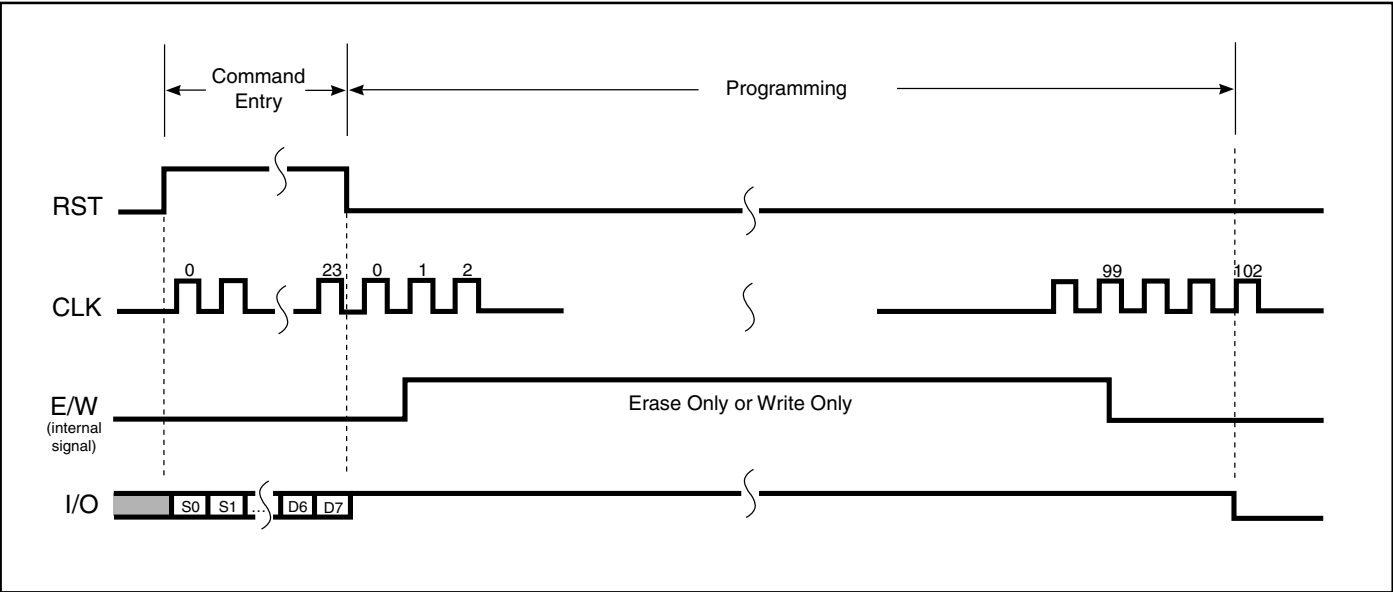

Figure 9. Programming Erase Only or Write Only
2. Write only if 103 clock pulses at $f < 20$ KHz are applied. This operation is only suitable if single bits of one byte shall be changed only from 1 to 0. (See Figure 9.)
3. Erase only if the input data = FFH and 103 clock pulses at $f < 20$ KHz are applied. (See Figure 9.)
The write protect bit with data comparison command writes 0 to the corresponding protect bit only if the input data and the data in the specified memory location are the same. After the protect bit is set to 0 (write protection enabled), it cannot be changed again. (See Figure 9.)